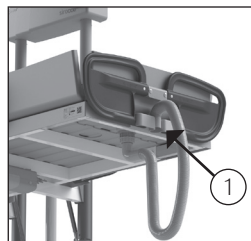

Figure 8 Waterdrainage.
Water is drained away from the Sirocco basic / Sirocco deluxe via a drainage hose. To do this, remove the hose from the recess (1) and route it to the lowest possible drainage point (See figure 8). Always click the hose into the recess of the lying plate, in connection with leaking and dripping.